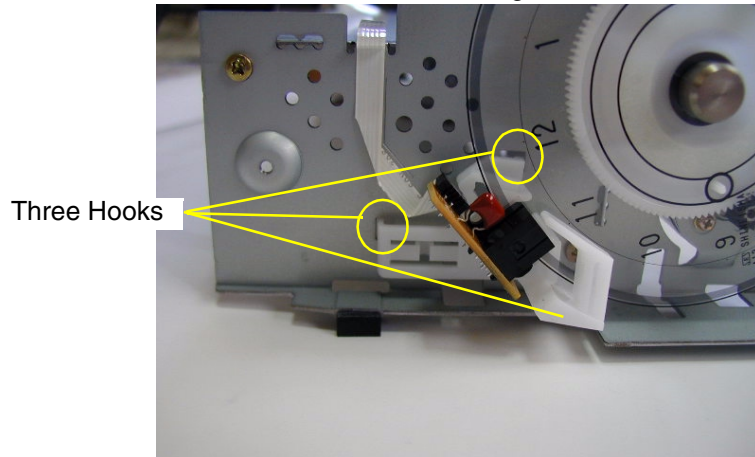

Figure 4-58. Removing the PF Encoder Sensor
- 13) Remove the PF Encoder Detector Assembly by releasing the three hooks from the Printer Mechanism. Refer to Figure 4-58.